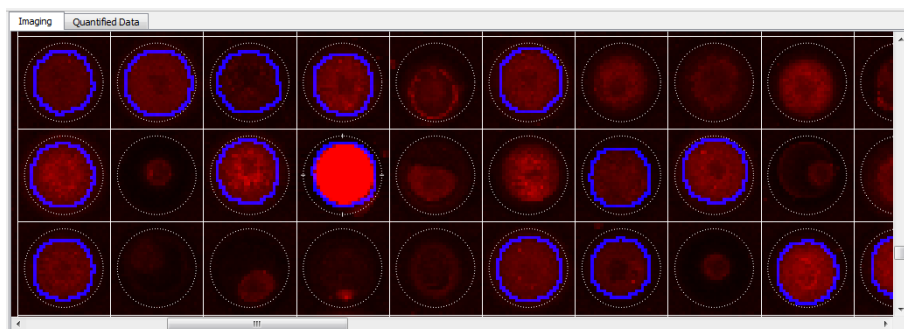

Figure 15: The Flex-Spot Method.
- *Fixed-Spot*: The software *always* uses the pixels in the *spotted region* (Figure 15, dashed circles) to compute the raw value. The background value is calculated based on the pixels in the remaining region within the spot.
The Flex-Spot method is recommended because it does not require the spots in the image to rigidly match with their spotted regions, as specified in the GAL file. Figure 15 illustrates such a case. Here, within a spot (the white square) the spotted region is depicted by the white dashed circle. The spots' signals, shown in red, have different shape and position from those of their spotted region. Despite that fact, the Flex-Spot method can still precisely find the spots and highlight their border in blue.
As an example, the spots shown in Figure 15 are detected by the Flex-Spot method with the *Smallest spot size (%)* parameter being 50%. It can be observed that small spots do not have a blue border.